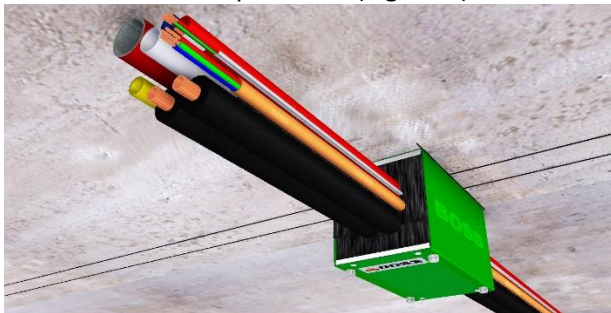

Figure 4
5. Install the lid by resting it on the flanges and sliding it into place. The Smoke Brushes will shape themselves around the penetrating services and when closed, the Smoke Brushes can easily be tucked into place by hand. Secure the lid using the four thumb screws provided. (Figure 4)